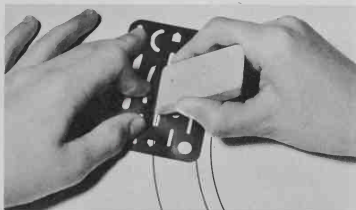

Fig. 1-24. Erasing shield in use.
3. If necessary, to protect surrounding area, use an erasing shield, Fig. 1-24.